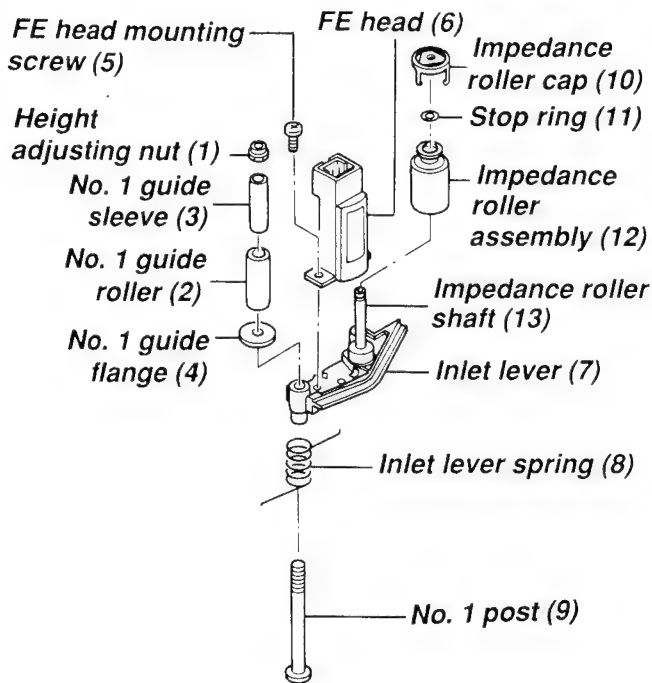

Fig. 4-3-4
1. Remove the impedance roller cap (10), shown in Fig. 4-3-4.
2. Remove the stop ring (11).